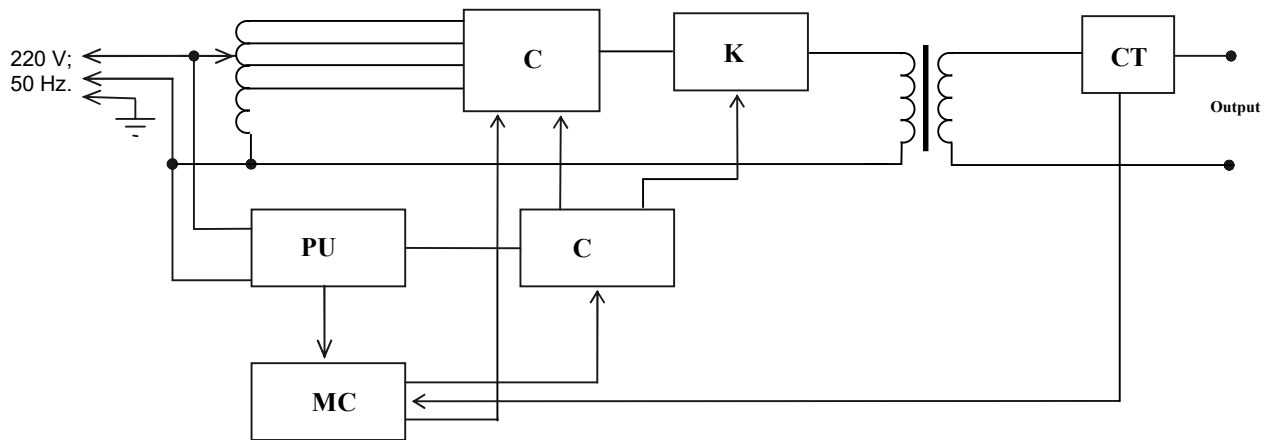

Fig. 1 The functional chart of the test generator IGP 2.1
4.1 The functional chart of the test generator IGP 2.1 is shown in **Figure 1**.